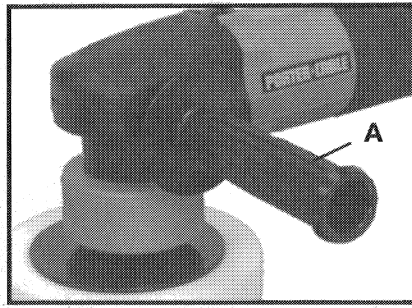

Fig. 2
An auxiliary handle (A), Fig. 2, is furnished with the tool. The auxiliary handle may be installed on either side of the front housing to facilitate either right-handed or left-handed operation.